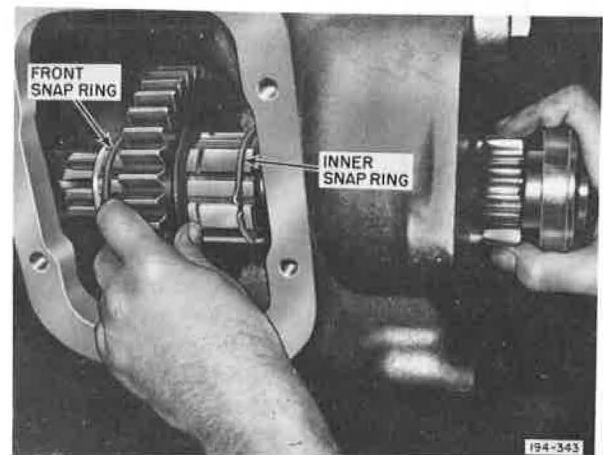

Figure 5-3 . Installing Gear and Front Snap Ring
7. Install power take-off gear with its retaining front snap ring on shaft. See Figure 5-3 .